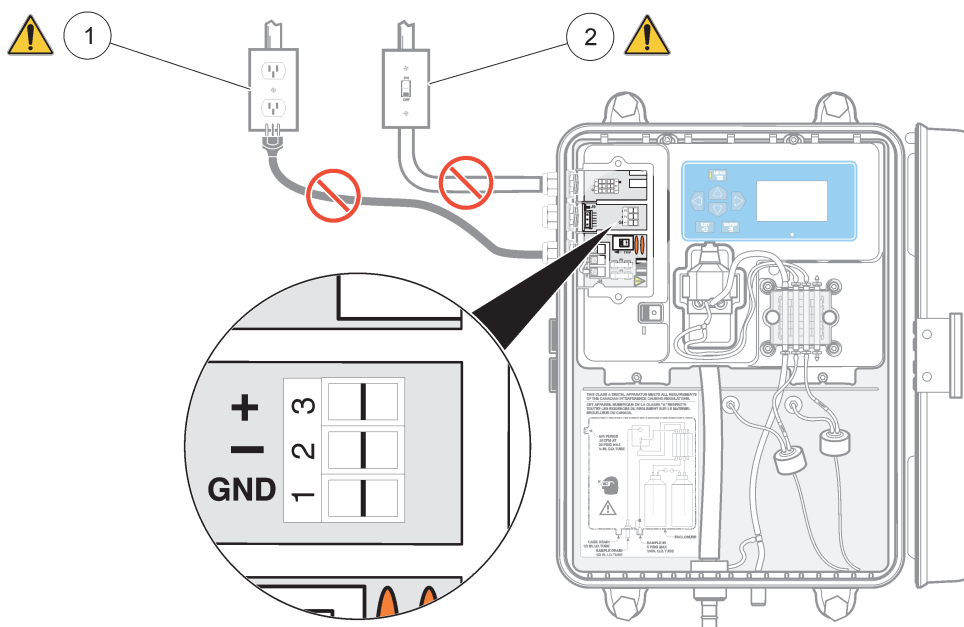

Figure 16 Recorder connections
5. Remove the connector from the instrument. Refer to Figure 16 on page 24 for connector position.